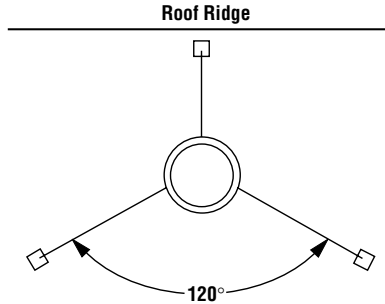

Figure 29
Note: If chimney extends more than 8' above roof surface, guy wires are also recommended. Use three (3) guy wires, attach to locking band assembly, extend and secure to roof in a triangular pattern (Figure 29). Guy wires are not supplied by the manufacturer.